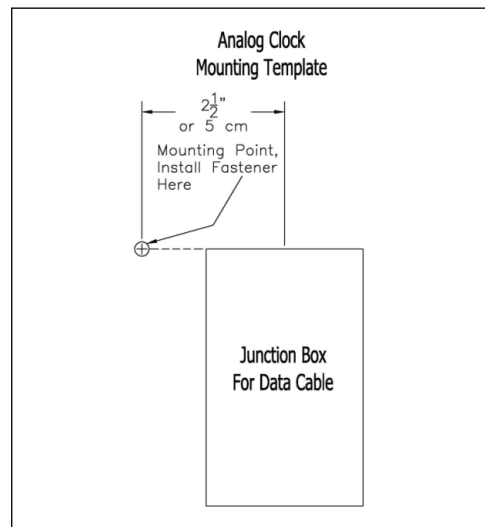

Figure 2: Analog Clock Mounting Template
3. Refer to Figure 2 to install the junction box for the data cable (if required) centered 2 1/2" (5 cm) to the right of the Mounting Point.